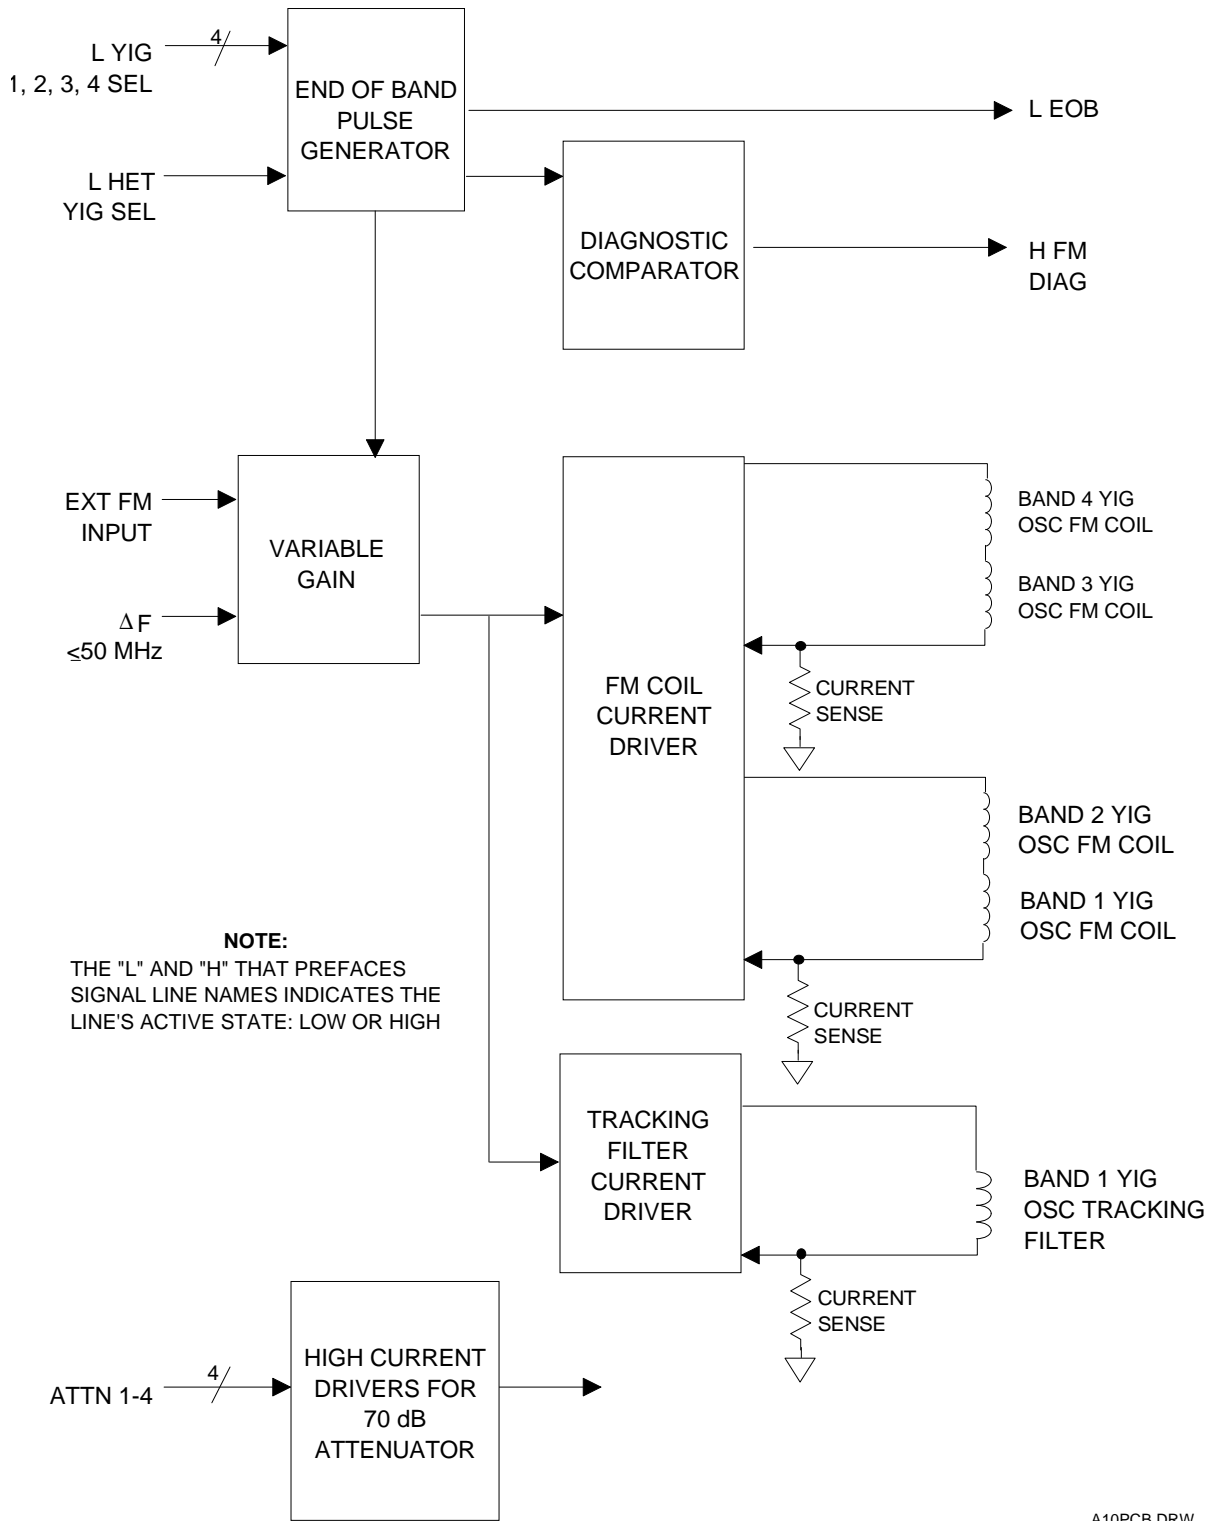

Figure 2-10. A1A10 FM/ATTN CCA Functional Block Diagram
- i. *A1A10 FM/Attenuator PCB*. This PCB (Figure 2-10) generates currents that control (1) FM modulation for the YIG oscillators, (2) drive for the 2-to-8 GHz YIG oscillator tracking filter, and (3) operation of A4AT1 Step Attenuator. Additionally, it generates the End of Band (EOB) signal used on A1A2 Ramp Generator PCB.